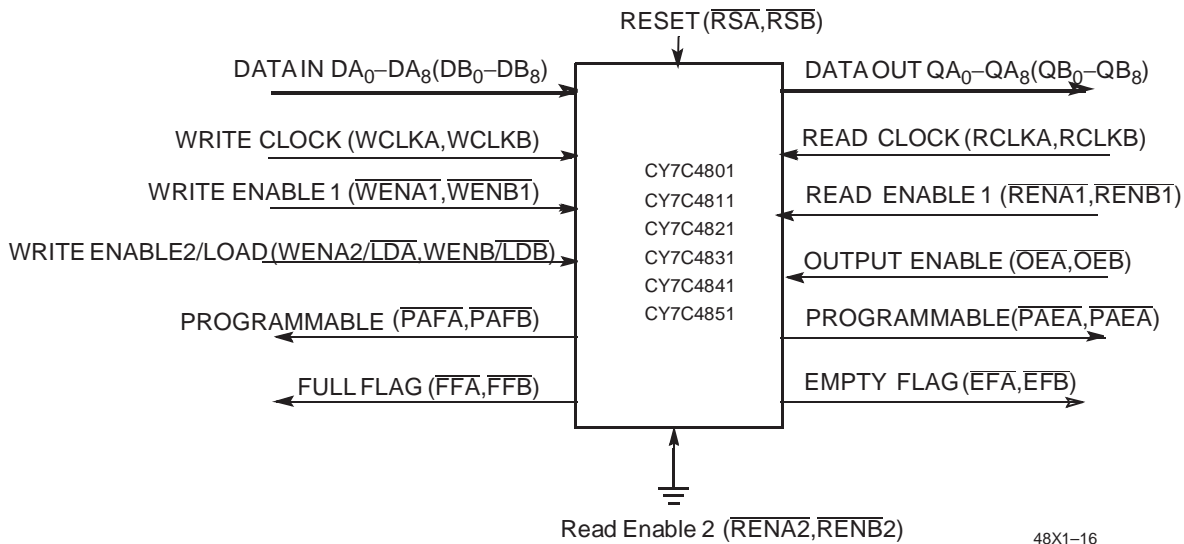

Figure 2. Block Diagram of 256 x 9,512 x 9,1024 x 9,2048 x 9,4096 x 9,8192 x 9 Double Sync FIFO Used in a Single Device Configuration.
When FIFO A(B) is in a Single Device Configuration, the Read Enable 2 $\overline{\text{RENA2}}(\overline{\text{RENB2}})$ control input can be grounded (see Figure 2). In this configuration, the Write Enable2/Load